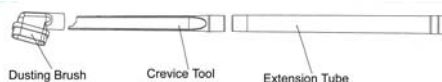

Fig. 8
2. The crevice tool and the dusting brush will fit both the extension tubes and the hose. The dusting brush will also fit on the end of the crevice tool. (Fig. 8)